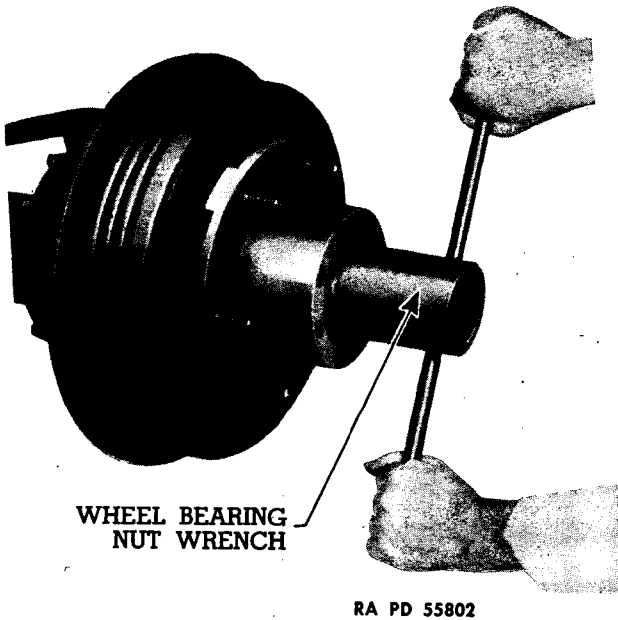

Figure 56—Adjusting Wheel Bearings
(7) ADJUST BEARING (fig. 56).
(12) **ADJUST BEARING** (fig. 56).